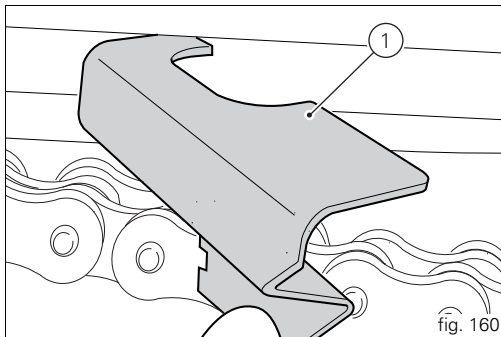

fig. 160
The chain tensioning gauge (1) must be inserted between the swingarm and the lower chain slider in correspondence of the slider central fixing point (fig. 160).